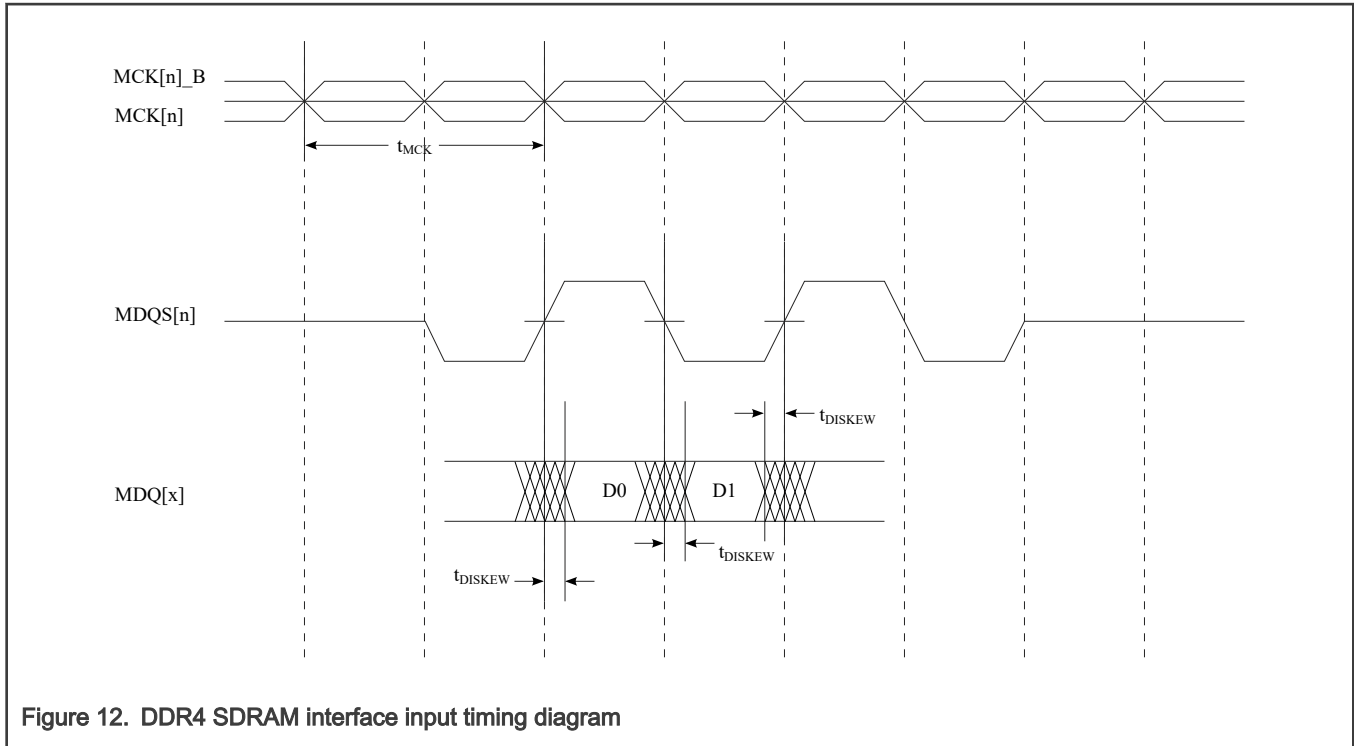

Figure 12. DDR4 SDRAM interface input timing diagram
3. See Figure 12.
2. See Figure 12.
4. The symbols used for timing specifications follow the pattern of $t_{(first\ two\ letters\ of\ functional\ block)(signal)(state)\ (reference)(state)}$ for inputs and $t_{(first\ two\ letters\ of\ functional\ block)(reference)(state)(signal)(state)}$ for outputs. Output hold time can be read as DDR timing (DD) from the rising or falling edge of the reference clock (KH or KL) until the output went invalid (AX or DX). For example, t_{DDKHAS} symbolizes DDR timing (DD) for the time t_{MCK} memory clock reference (K) goes from the high (H) state until outputs (A) are setup (S) or output valid time.